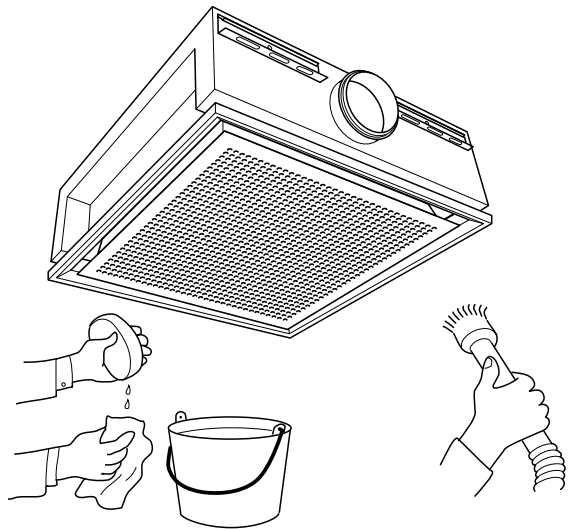

FIGURE 28
- 1) Wipe down the exterior of the chilled beam with soap and water as needed. (See **FIGURE 28**)